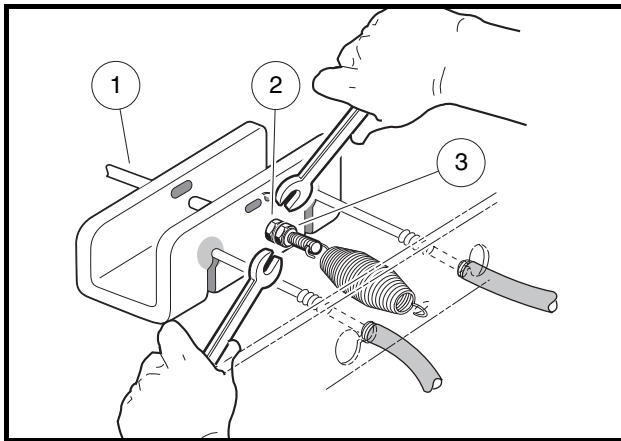

Figure 5-20 Loosen Rear Brake Equalizer Rod Nuts
- 2.2. To provide slack in the brake cables, loosen the equalizer retaining nuts (2 and 3) on the equalizer rods (1) (**Figure 5-20, Page 5-16**).